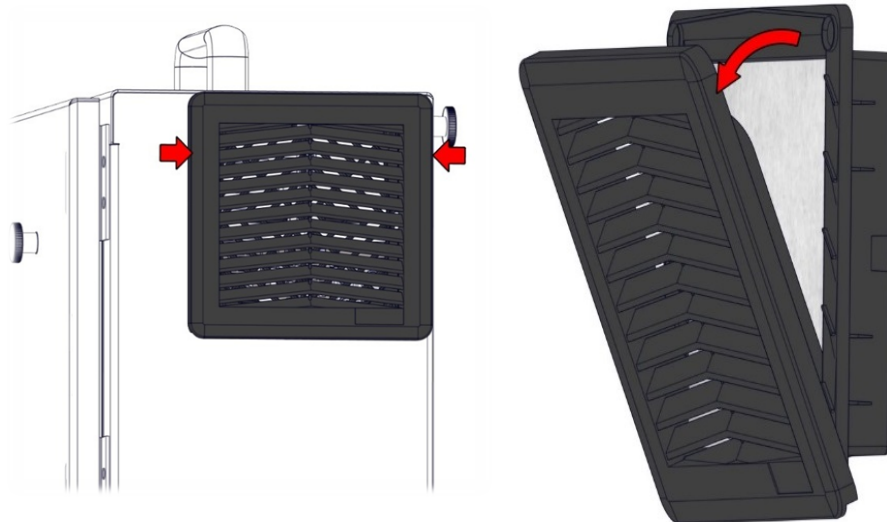

Figure 3.7. Byt ut manöverskåpets filter.
1. Gently remove the outer plastic frame by pulling where the red arrows are, as shown in the images below in figure 3.7. Ramen lutar utåt.